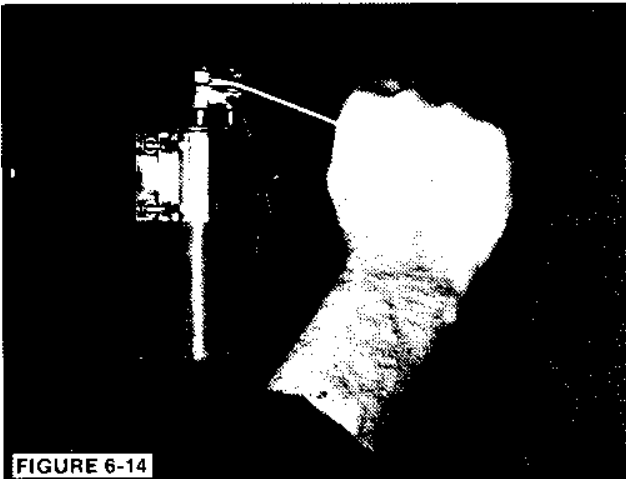

FIGURE 6-14
2. Remove the PMG output leads from the capacitor (Figure 6-14) and loosen all cable ties so the leads can be removed with the PMG stator.